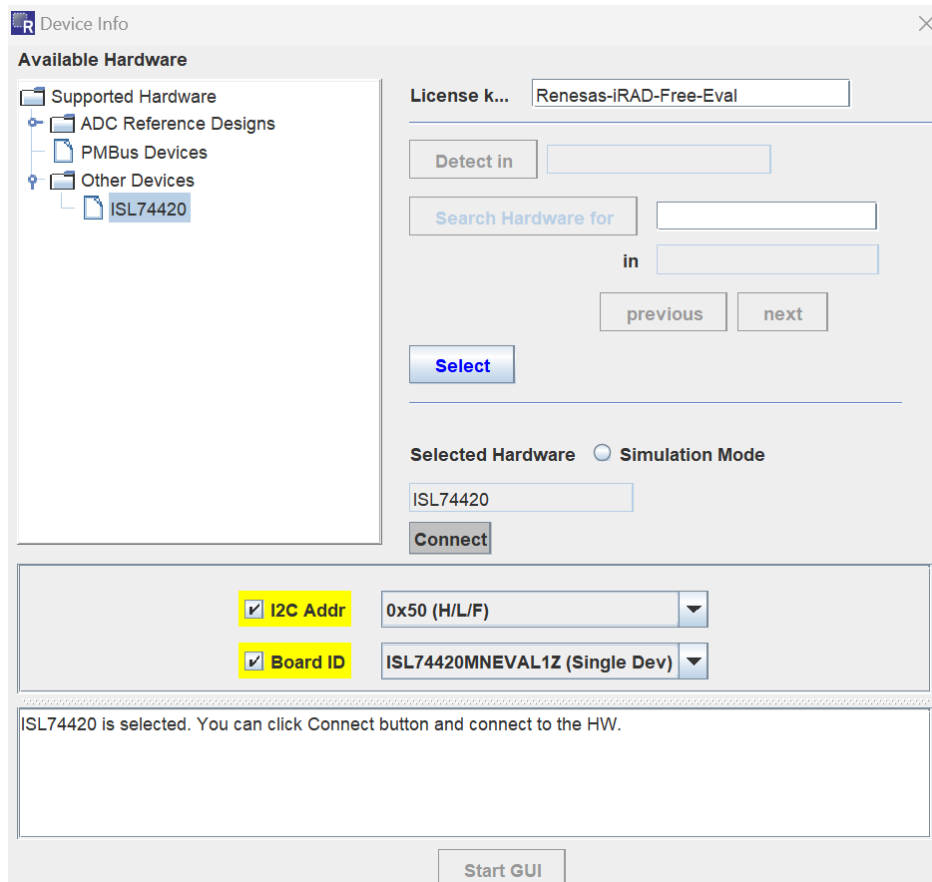

Figure 5. Select Other Devices/ISL74420 (Click Select)
2. Click on the **Select** button in the middle. The screen should look like Figure 5.